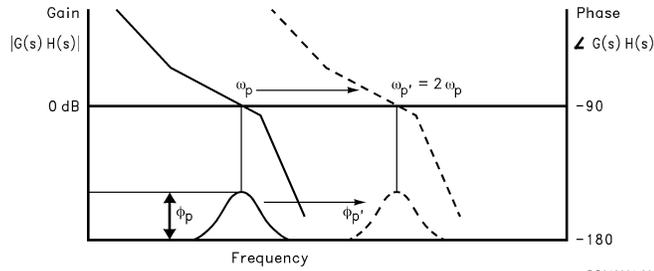

FIGURE 4. Open Loop Response Bode Plot
A plot of the magnitude and phase of  $G(s)H(s)$  for a stable loop, is shown in *Figure 4* with a solid trace. The parameter  $\phi_p$  shows the amount of phase margin that exists at the point the gain drops below zero (the cutoff frequency  $\omega_p$  of the loop). In a critically damped system, the amount of phase margin would be approximately 45 degrees.
If we were now to redefine the cut off frequency,  $\omega_p'$ , as double the frequency which gave us our original loop bandwidth,  $\omega_p$ , the loop response time would be approximately halved. Because the filter attenuation at the comparison frequency also diminishes, the spurs would have increased by approximately 6 dB. In the proposed Fastlock scheme, the higher spur levels and wider loop filter conditions would exist only during the initial lock-on phase—just long enough to reap the benefits of locking faster. The objective would be to open up the loop bandwidth but not introduce any additional complications or compromises related to our original design criteria. We would ideally like to momentarily shift the curve of *Figure 4* over to a different cutoff frequency, illustrated by the dotted line, without affecting the relative open loop gain and phase relationships. To maintain the same gain/phase relationship at twice the original cutoff frequency, other terms in the gain and phase *Equations (5), (6)* will have to compensate by the corresponding "1/w" or "1/w2" factor. Examination of *Equations (3), (4), (6)* indicates the damping resistor variable  $R2$  could be chosen to compensate the "w" terms for the phase margin. This implies that another resistor of equal value to  $R2$  will need to be switched in parallel with  $R2$  during the initial lock period. We must also ensure that the magnitude of the open loop gain,  $H(s)G(s)$  is equal to zero at  $\omega_p' = 2\omega_p$ .  $K_{VCO}$ ,  $K_\phi$ ,  $N$ , or the net product of these terms can be changed by a factor of 4, to counteract the  $w^2$  term present in the denominator of *Equations (3), (4)*. The  $K_\phi$  term was chosen to complete the transformation because it can readily be switch between 1X and 4X values. This is accomplished by increasing the charge pump output current from 1 mA in the standard mode to 4 mA in Fastlock.